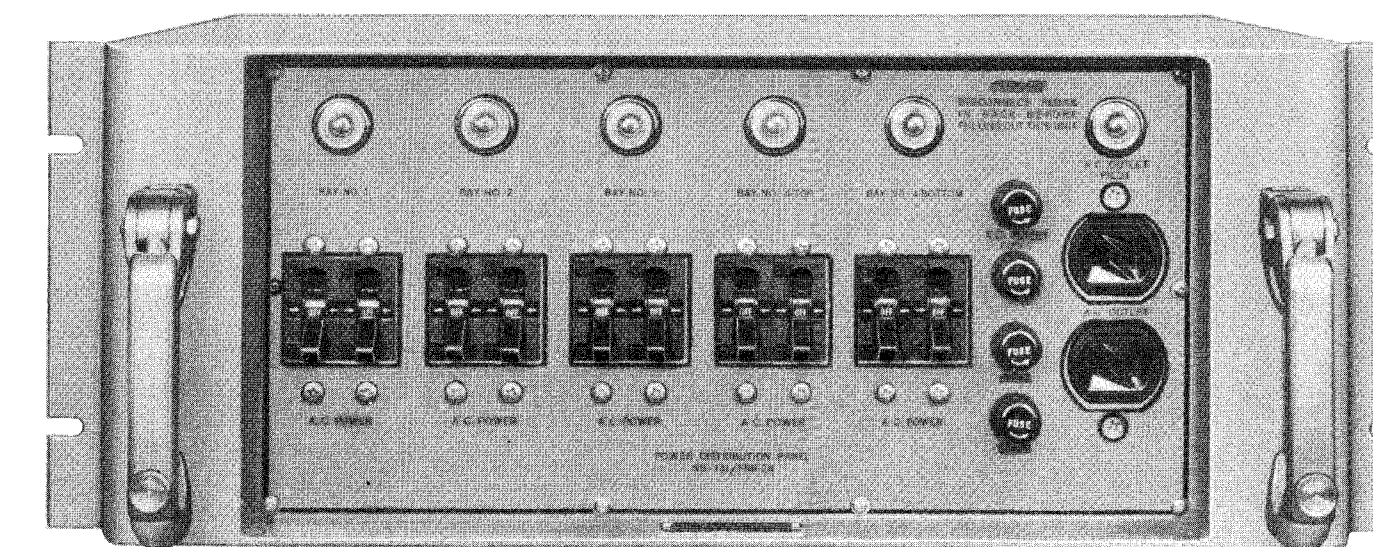

Figure 1-25. Power Distribution Panel SB-141/FRR-24
(13) POWER DISTRIBUTION PANEL SB-141/FRR-24. (See Figure 1-25).—The Power Distribution Panel SB-141/FRR-24 is located in bay 3 of the AN/FRR-24 Radio Receiving Set. A.C. power is distributed to the five power supplies through this unit. Separate switches with built-in ten-ampere circuit breakers are provided to connect A.C. into each of the five power supplies. A neon lamp is connected at each input to indicate the application of A.C. voltage to the selected power supply.